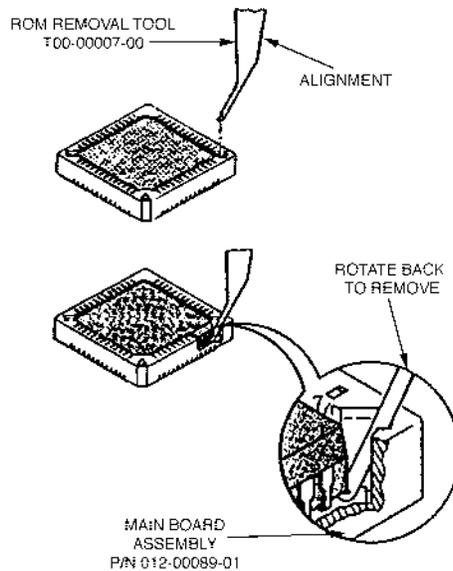

Figure 9. ROM Removal
- a. Orient the socket and tool as shown in Figure 9.